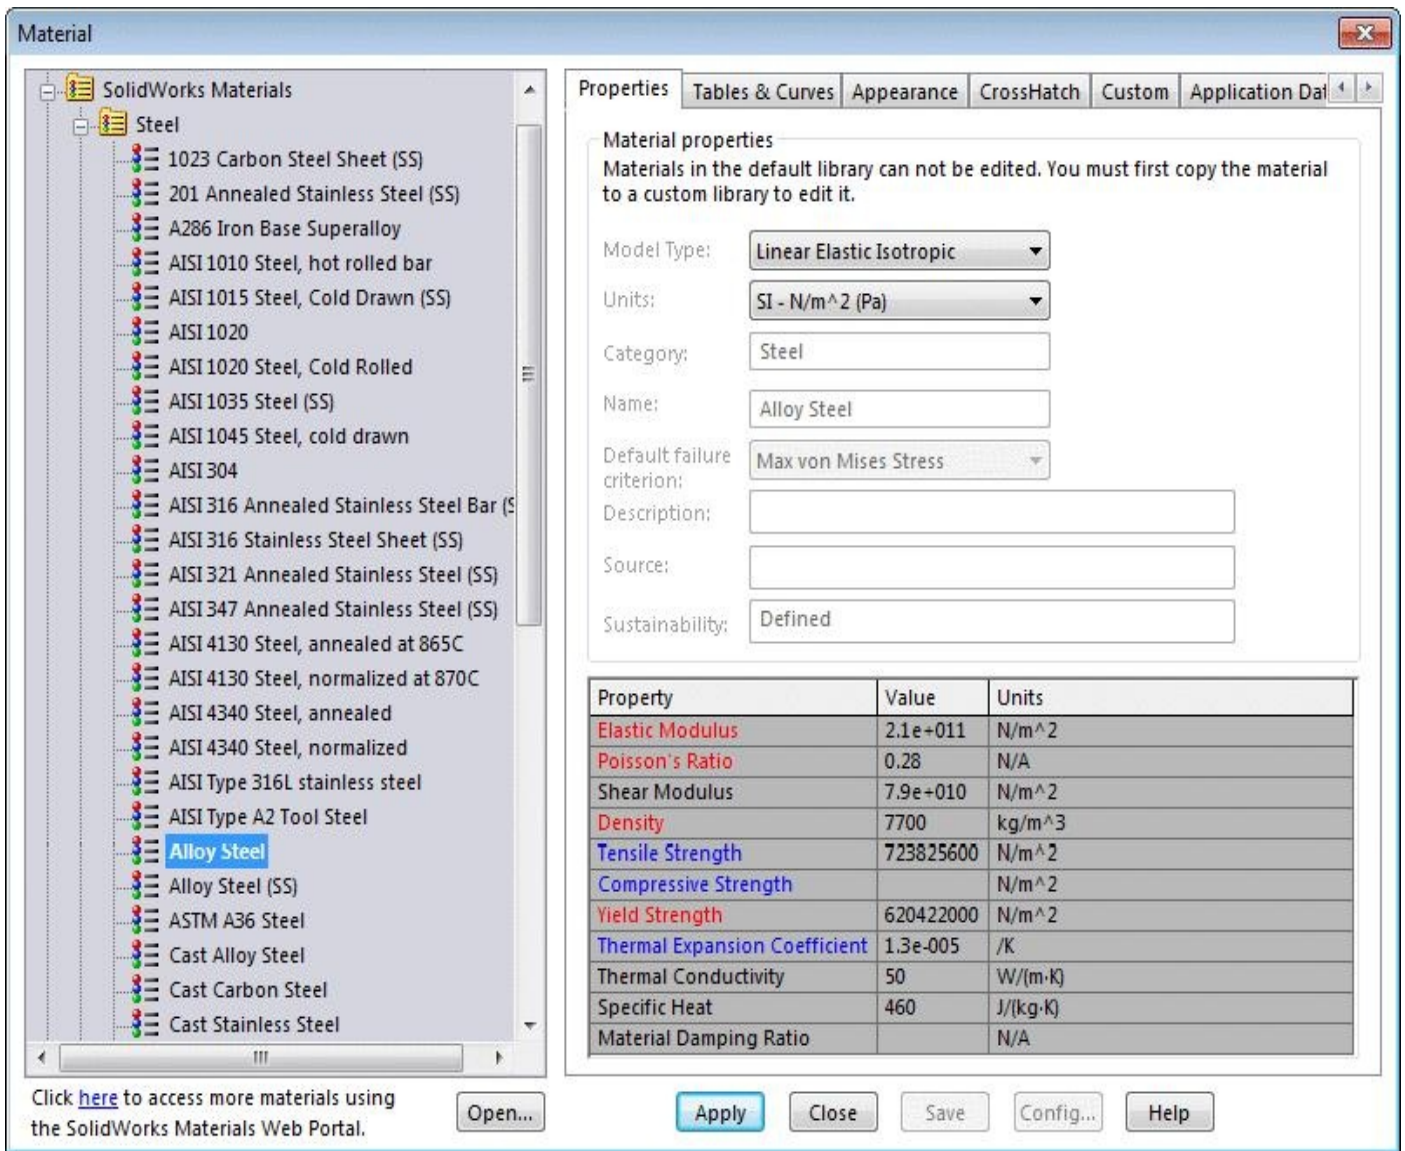

Figure-4. Material dialog box
- Click on the **Apply Material** button from the **Ribbon**. The **Material** dialog box will be displayed as shown in Figure-4.